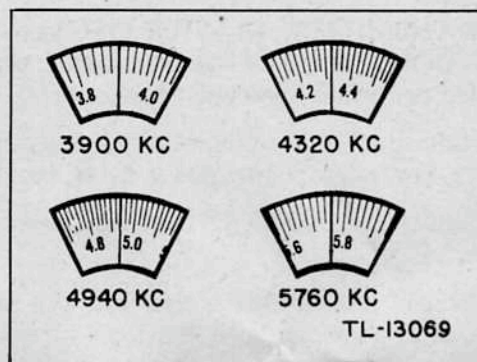

Figure 17. Receiver dial settings.
(1) Connect the receiver-transmitter to the generator by means of Cord CD-1086 (7 ft.) and connect Battery BA-48 to the BATTERY receptacle on the transmitter by means of Cord CD-1119.
(2) Turn the SEND-STANDBY-OFF switch to STANDBY. With this arrangement the receiver is operated by Battery BA-48, while the transmitter is ready to operate as soon as the generator is operated.
(3) Proceed otherwise as in subparagraph a above.
**24. RECEIVER DIAL SETTINGS.** The receiver dial is directly calibrated in megacycles (mc) (1 mc = 1,000 kc). Each small division equals 20 kc. Figure 17 shows views of several dial settings and the corresponding frequencies. In reading the dial, disregard the decimal point between the figures on the dial scale. Read in hundreds of kilocycles the pair of numbers to the left of the index line on the window; then add 20 kc for each division between those figures and the index line on the window.